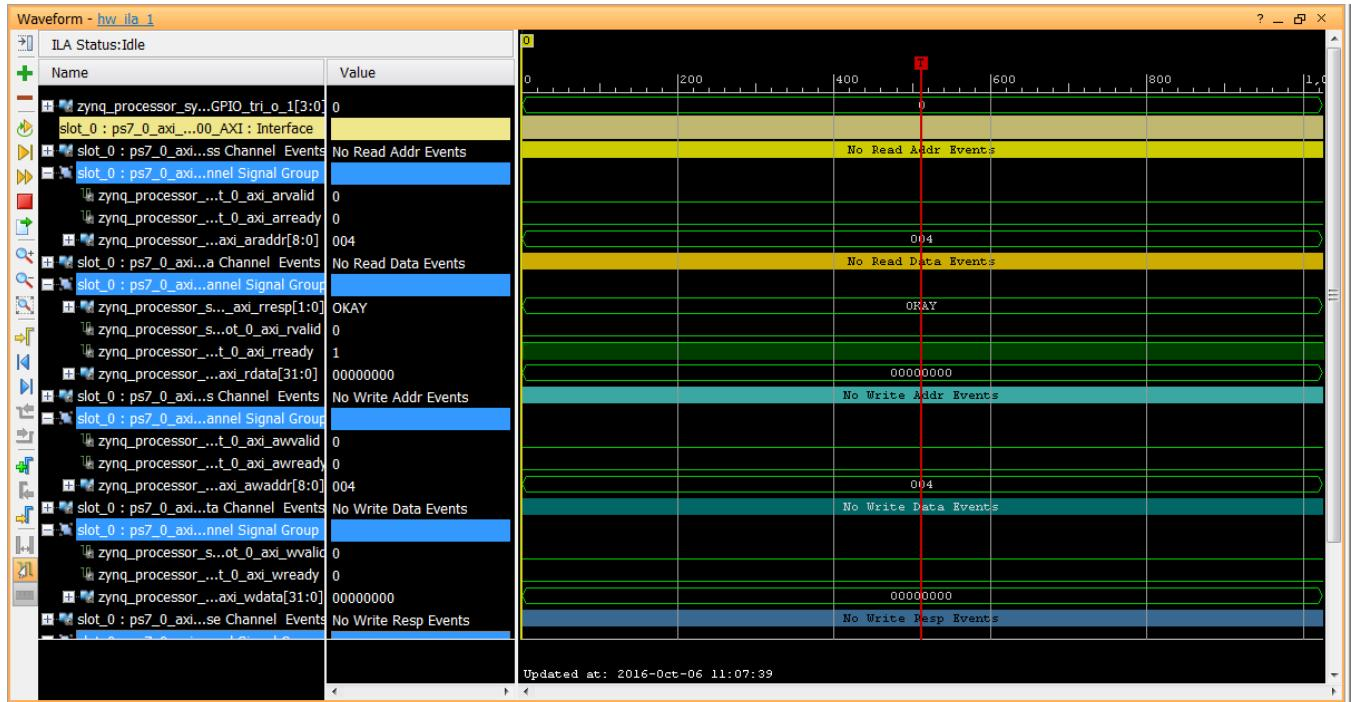

Figure 82: PS to PL Cross Trigger Waveform in hw_il_1
4. As the code hits the breakpoint, the processor sends a trigger to the ILA. The ILA has been set to trigger when it sees the trigger event from the processor. The waveform window displays the state of various signals as seen in Figure 82.